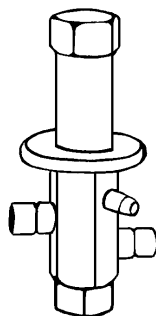

Figure 3: DGRE adjustable hot gas bypass regulator.
1. Direct acting conventional port valves (figure 3)